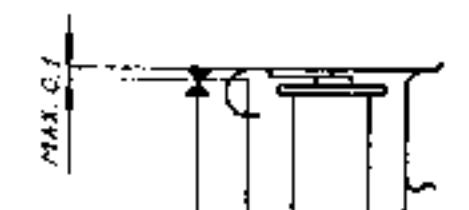

Fig. 90.
- Remove the armature from the pole assembly (see Fig. 90).